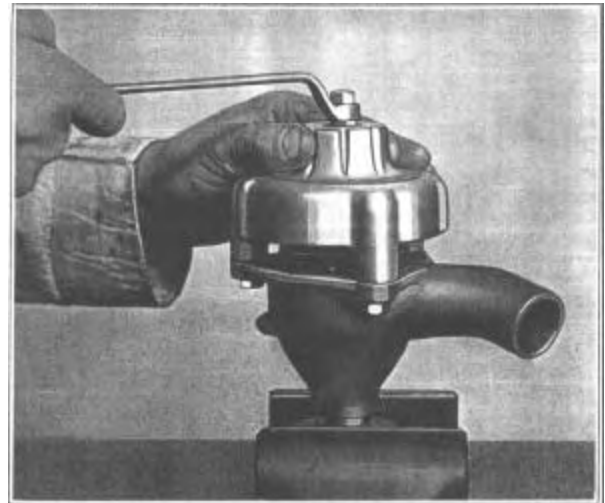

Figure 519 Cutting—Burr from Shaft
24. Proceed to cut the burr end from the impeller shaft, Figure 519, turning the cutter with an end wrench and applying a slight pressure with the thumb screw at the same time.